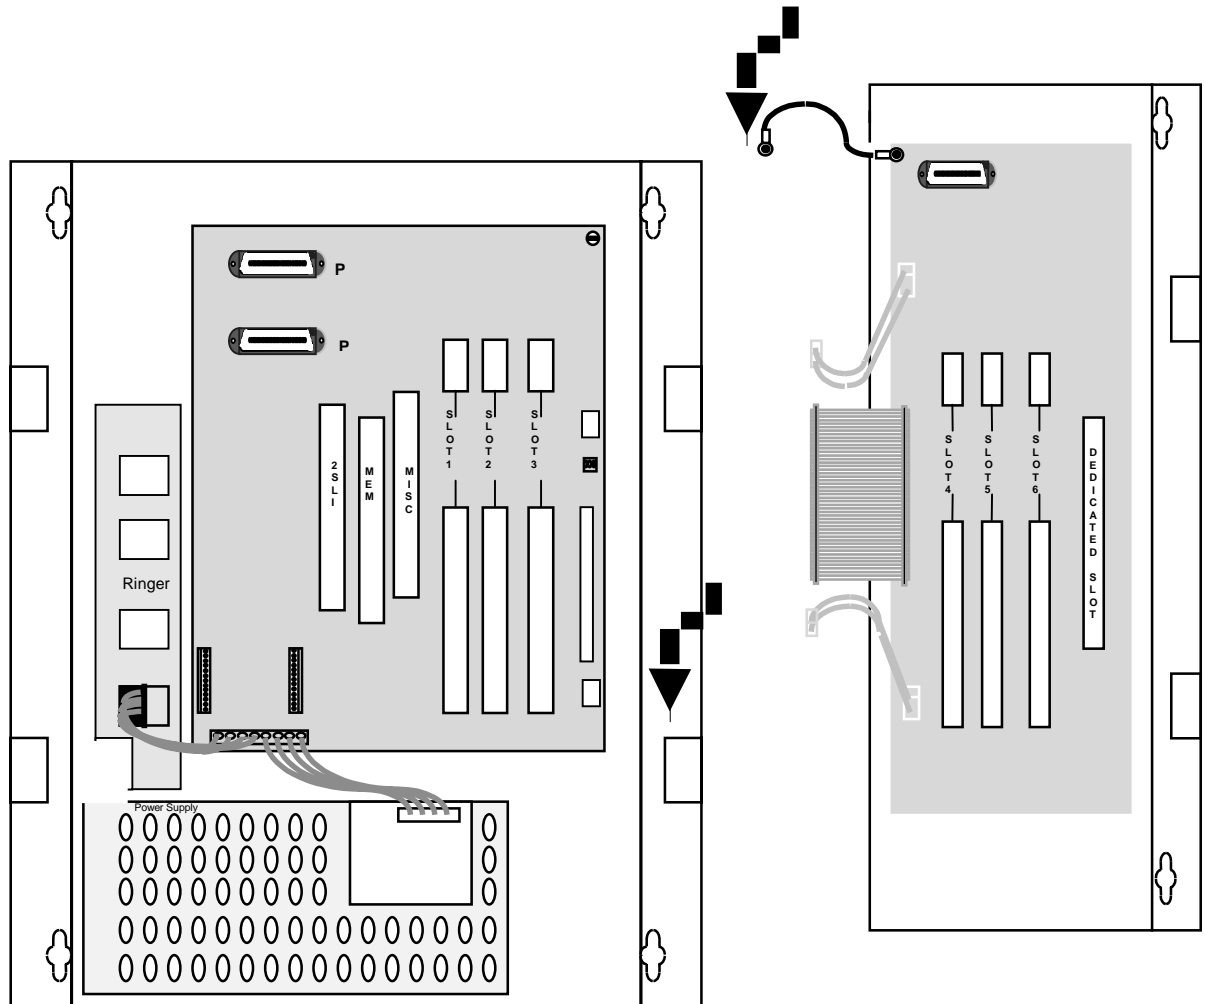

Figure 3-4 Expansion Cabinet Installation
5. Move the Expansion cabinet to the KSU and slide the lugs on the base of the Expansion cabinet into the slots on the side of the KSU and lower the Expansion Cabinet. (see Fig 3.4)